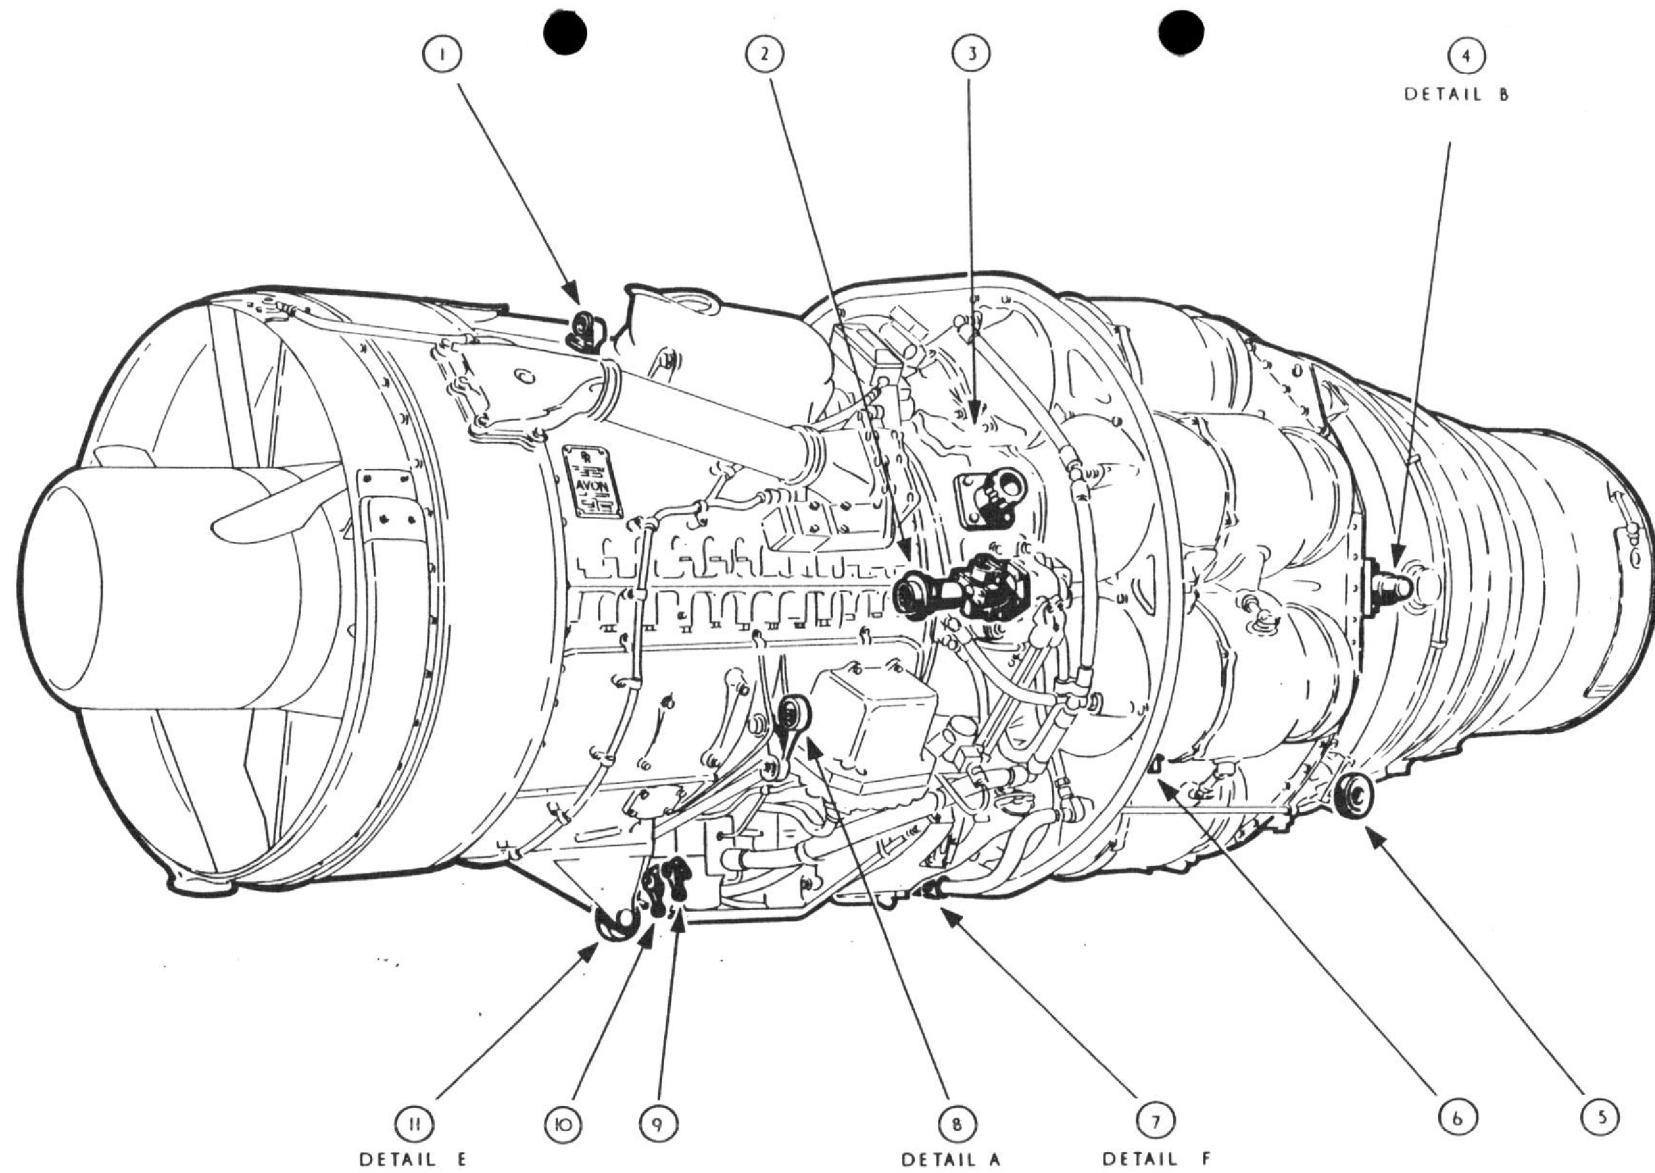
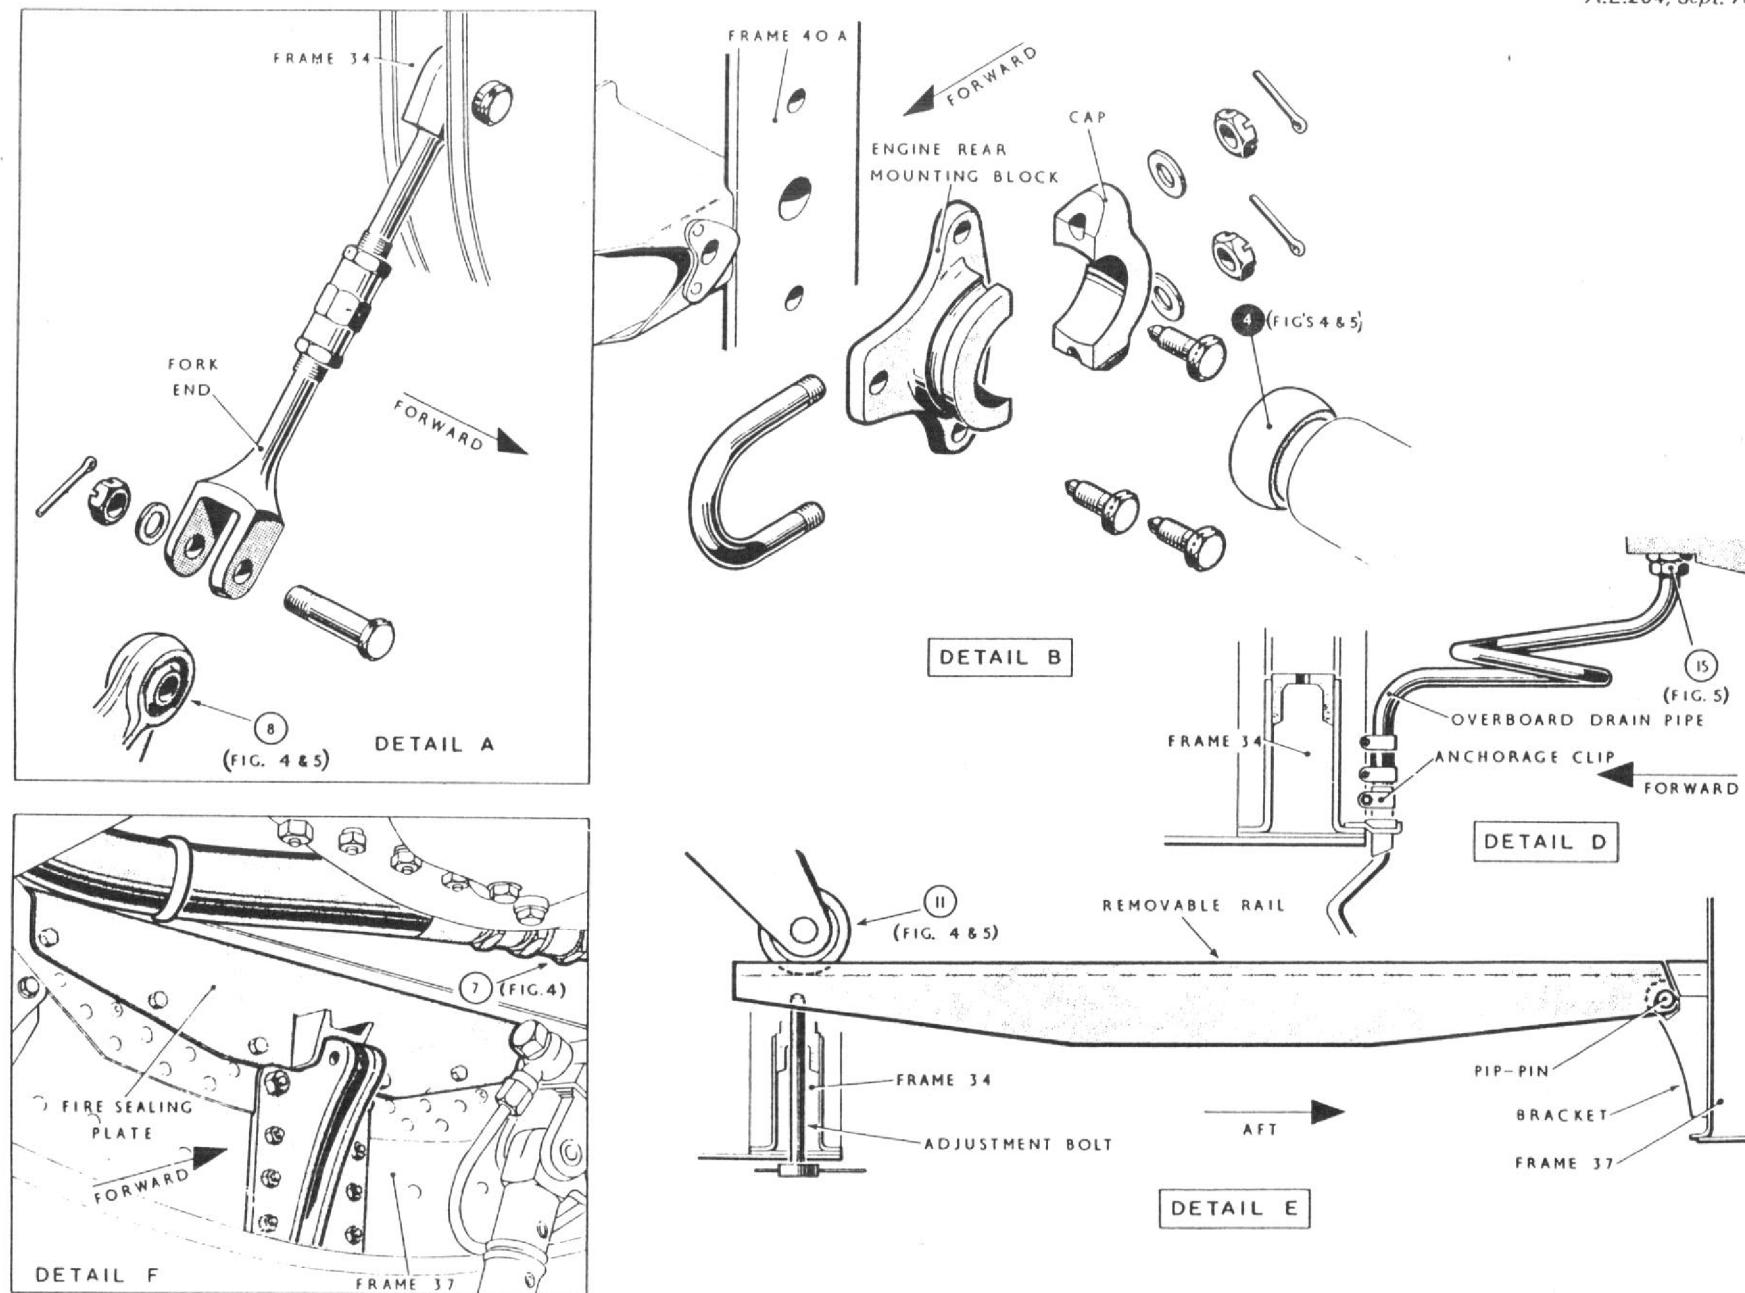

Fig.4 Engine removal (1)
Fig.6 Engine removal (3)
Engine removal (fig. 4, 5 and 6)
(c) *Engine access door.* Disconnect and remove the drain pipe from the oil filler (item 18, fig. 5). Disconnect the overboard drain pipe (detail D, fig. 5 and 6) from the engine access door landing aft of frame 34 by removing the anchorage clip from the drain connection and from the spill connection (15) at the bottom of the fuel units and fuel pressure warning light switch. Remove the drain pipe from the aircraft. Disconnect the two connecting rods from the high pressure cock and throttle levers (item 9 and 10, fig. 4) and from their respective Teleflex wrapped box units on frame 34. Disconnect the fire extinguisher hose (detail F, fig. 4 and 6) from the rigid metal pipe (item 7, fig. 4) on the engine. Tuck back the hose behind frame 37. Unscrew the six bolts from the fire sealing plate (detail F, fig. 4 and 6) on the forward face of frame 37. Remove the plate from the aircraft. Unscrew the four nuts and disconnect the fuel inlet
pipe from the fuel units (item 16, fig. 5) and from the connection behind the nearest flexible coupling. Remove the pipe and coupling from the aircraft. Place the removable rail (detail E, fig. 6) between frames 34 and 37 and lock in the bracket on the forward face frame 37 by inserting the pip pin. By screwing up the adjustment bolt through the bottom of frame 34 bring the rail into contact with the engine front roller (11) (detail E, fig. 6).
(d) *Engine front mounting access panels.* Disconnect the engine front mountings (detail A, fig. 4 and 6) and pull the fork ends flush to frame 34 in order to clear the engine front mounting eyes (item 8, fig. 4) and avoid fouling the engine on removal. Prise back the serrated, spring loaded locking ring and unscrew the shaft retaining nut to break down the gearbox drive shaft (item 2, fig. 4).
Disconnect the high energy igniter plugs (item 6, fig. 4 and 5) from the combustion chambers numbers 3 and 6.
- (f) *Cold air unit access panels.* Disconnect the flexible metallic fuel-tank pressurizing pipe from the engine (item 3, fig. 4) and from the non-return valve aft of frame 36. Remove the pipe from the aircraft. Disconnect the flexible air conditioning pipe from the engine (item 12, fig. 5) and from the connection behind the flexible coupling. Remove the pipe and coupling from the aircraft.
- (g) *Engine bleed valve duct panel.* Disconnect the flexible metal-braided gun heating pipe from the elbow on the engine (item 1, fig. 4) and tie back to the aircraft structure.
- (7) Having disconnected the above items, align the engine removal trolley with the engine rail lug on the rear face of frame 40A. Screw down the built in jacks at each corner of the trolley and raise it to the required height. Bring the engine rear roller channels of the trolley into alignment with the engine rear rollers (item 5, fig. 4 and 5) by turning the lateral adjustment handles on the cross members above the trolley axles. Lock the trolley to frame 40A by inserting the pip pin in the connecting link of the trolley. Dismantle the engine rear mountings (detail B, fig. 6) by removing the split pins, slotted nuts and washers
from the 'U' bolts. Withdraw the caps off the 'U' bolts. Pull the engine rearward about six inches in order to free the special bolts securing the rear mounting blocks (item 4, fig. 4 and 5). Break the wire locking and unscrew the three special bolts securing the engine rear mounting blocks to frame 40A. Remove the blocks from the aircraft. Transfer the engine from the aircraft to the trolley and secure by replacing the retaining bolts in front of the engine rear rollers at the ends of the roller channels. If the engine is not to be re-installed remove the pin and bearing from the port rear engine mounting and the bearing from the starboard rear engine mounting and retain with the mounting blocks. Withdraw the pip pin to disengage the trolley from frame 40A. Lower the trolley on to its wheels and tow away.